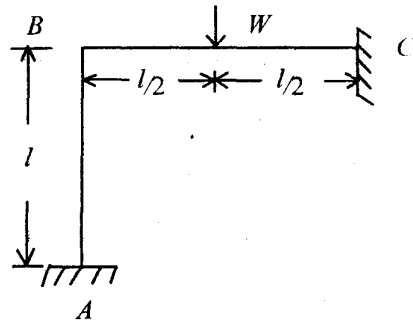

Fig. 2
2. Analyse the structure shown in Fig. 2 by the stiffness method: 20